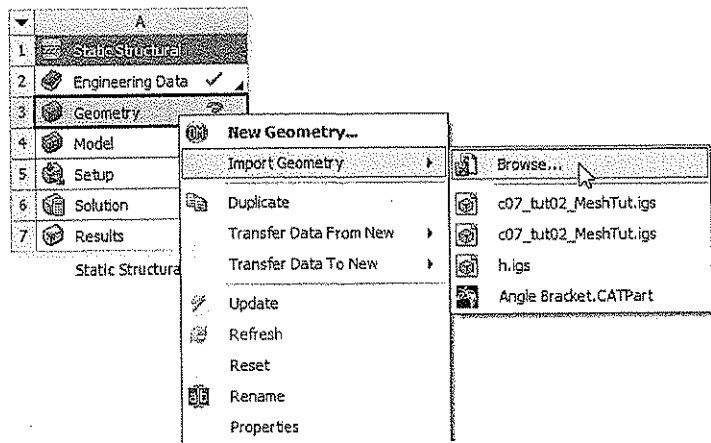

Figure 7-31 Choosing the Browse option from the flyout
- Choose the **Import Geometry** option; a flyout is displayed, refer to Figure 7-31.
- From this flyout, choose the **Browse** option, refer to Figure 7-31; the **Open** dialog box is displayed.